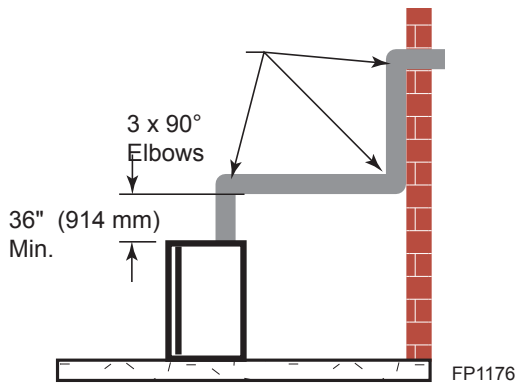

Figure 18 - Maximum Three (3) 90° Elbows Per Installation
- The maximum number of 90° elbows per side wall installation is three (3). *Figure 18*